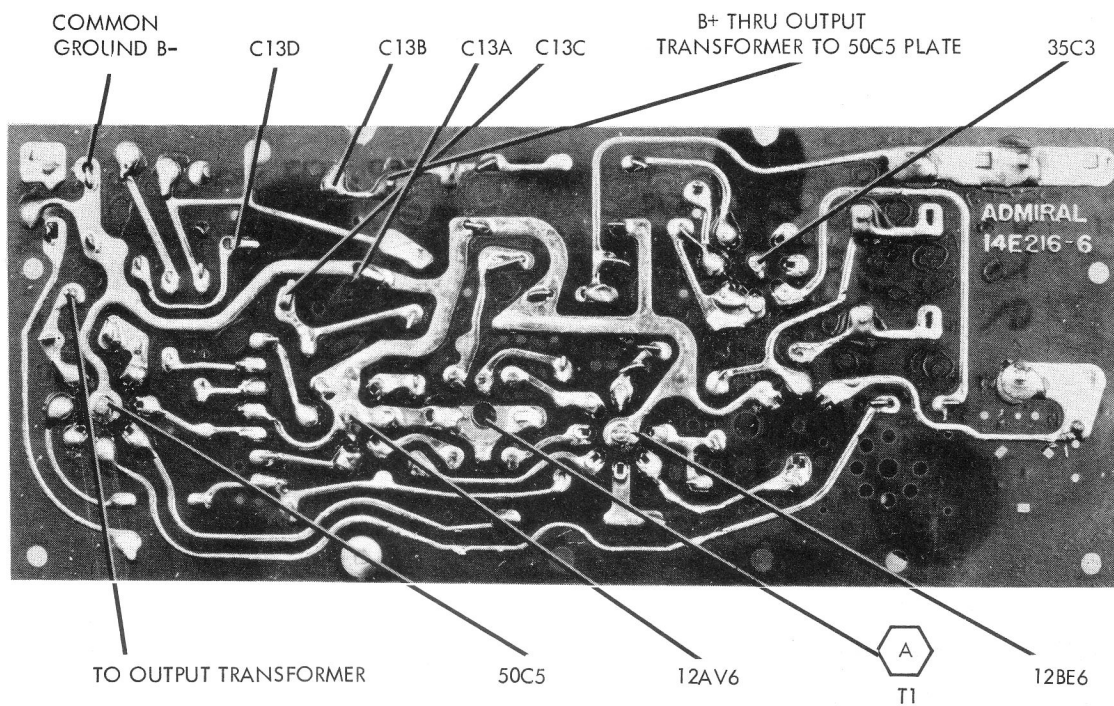

Figure 1. Bottom View of Chassis.
This receiver employs the latest radio circuitry and a "printed" circuit wiring technique. The "printed" circuit wiring used in this receiver replaces the hookup wire used in earlier receivers; see figure 1. The "printed" circuit wiring is permanently bonded to the underside of the plastic chassis base. This results in uniformity of chassis wiring, fewer wiring troubles and simplified circuit tracing and trouble shooting. All circuit components are of standard size and design and are mounted on the top side of the chassis; see figure 2. Audio circuit components are contained in a couplate.
*Adjustment "A" made from underside of chassis; see figure 1.
All reading made between tube socket terminals and common ground; see figure 1.